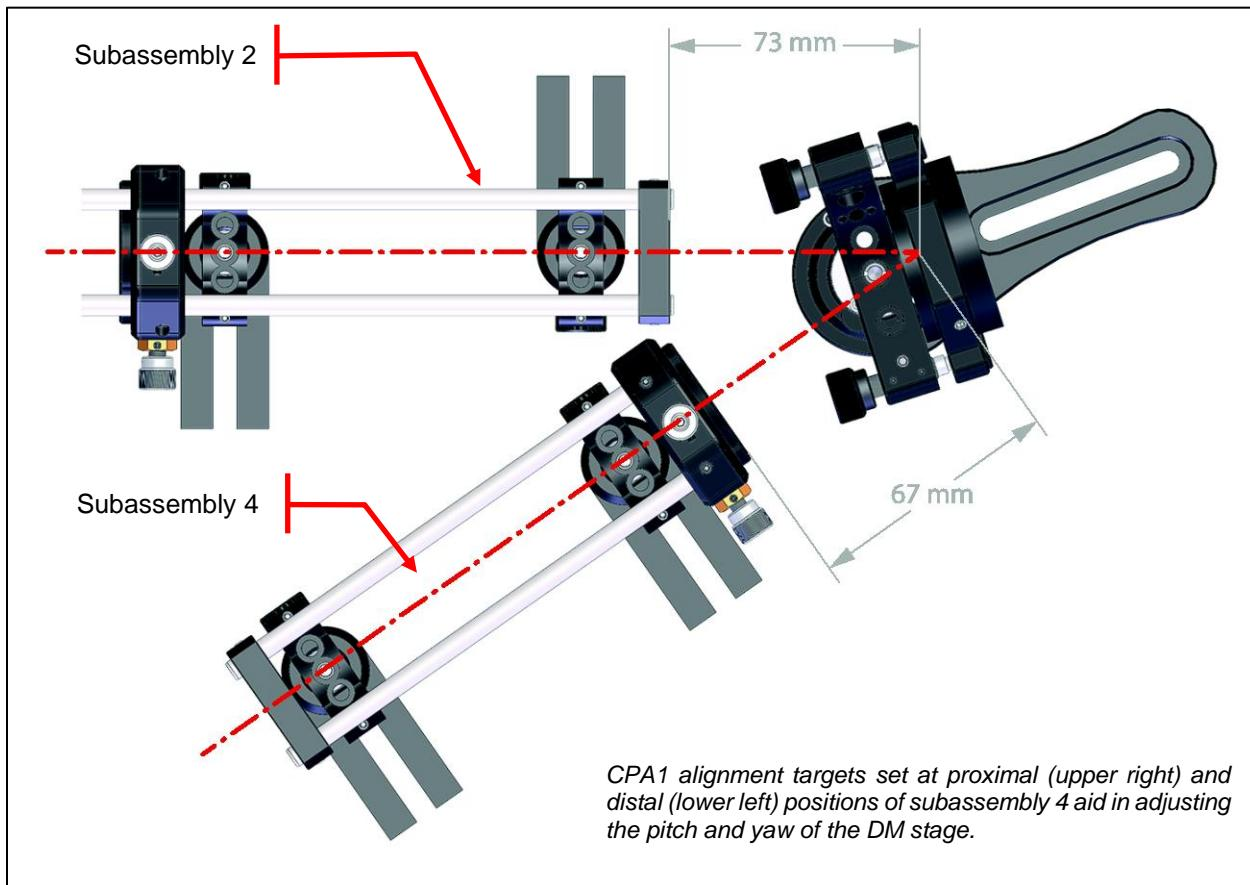

Figure 171 Aligning DM140A-35-Ux01 using the Cage System, AOK5 kit shown
- 1) With the DM mirror flattened (DM values set to '0'), place one CPA1 at the proximal lens (near the DM) and one CPA1 at the distal end of the final relay (subassembly 4 of an AOK5 kit or subassembly 6 of an AOKWT kit). Adjust the DM's pitch and yaw with the adjusters on the DM stage to center the beam entering the optical relay so that the spot passing through the first CPA1 is centered on the hole on the second CPA1 (refer to Figure 171).